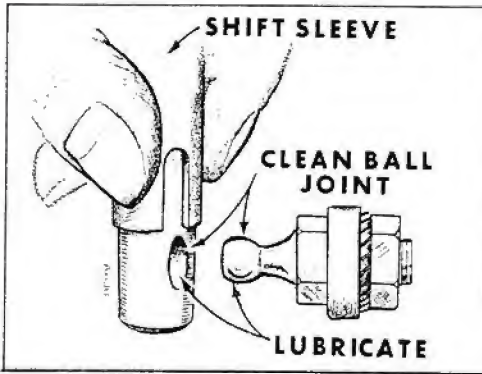

Fig. 10 Governor Linkage Lubrication
**GOVERNOR LINKAGE.** - Lubricate the linkage ball joints, figure 10, with powdered graphite (preferably), or a light, non-gumming lubricating oil.
- D. - **GOVERNOR LINKAGE.** Use lubricating graphite on the ball joints, figure 10. If graphite is not available, use a light non-gumming lubricating oil.